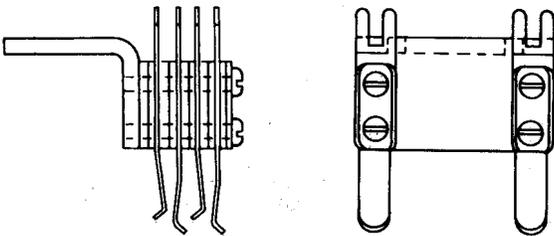

Fig. 4—357A Jack
2.04 357A: This multicontact jack (Fig. 4) is used with the 240A plugs in connection with a switchman's talking line circuit in Step-By-Step Systems.